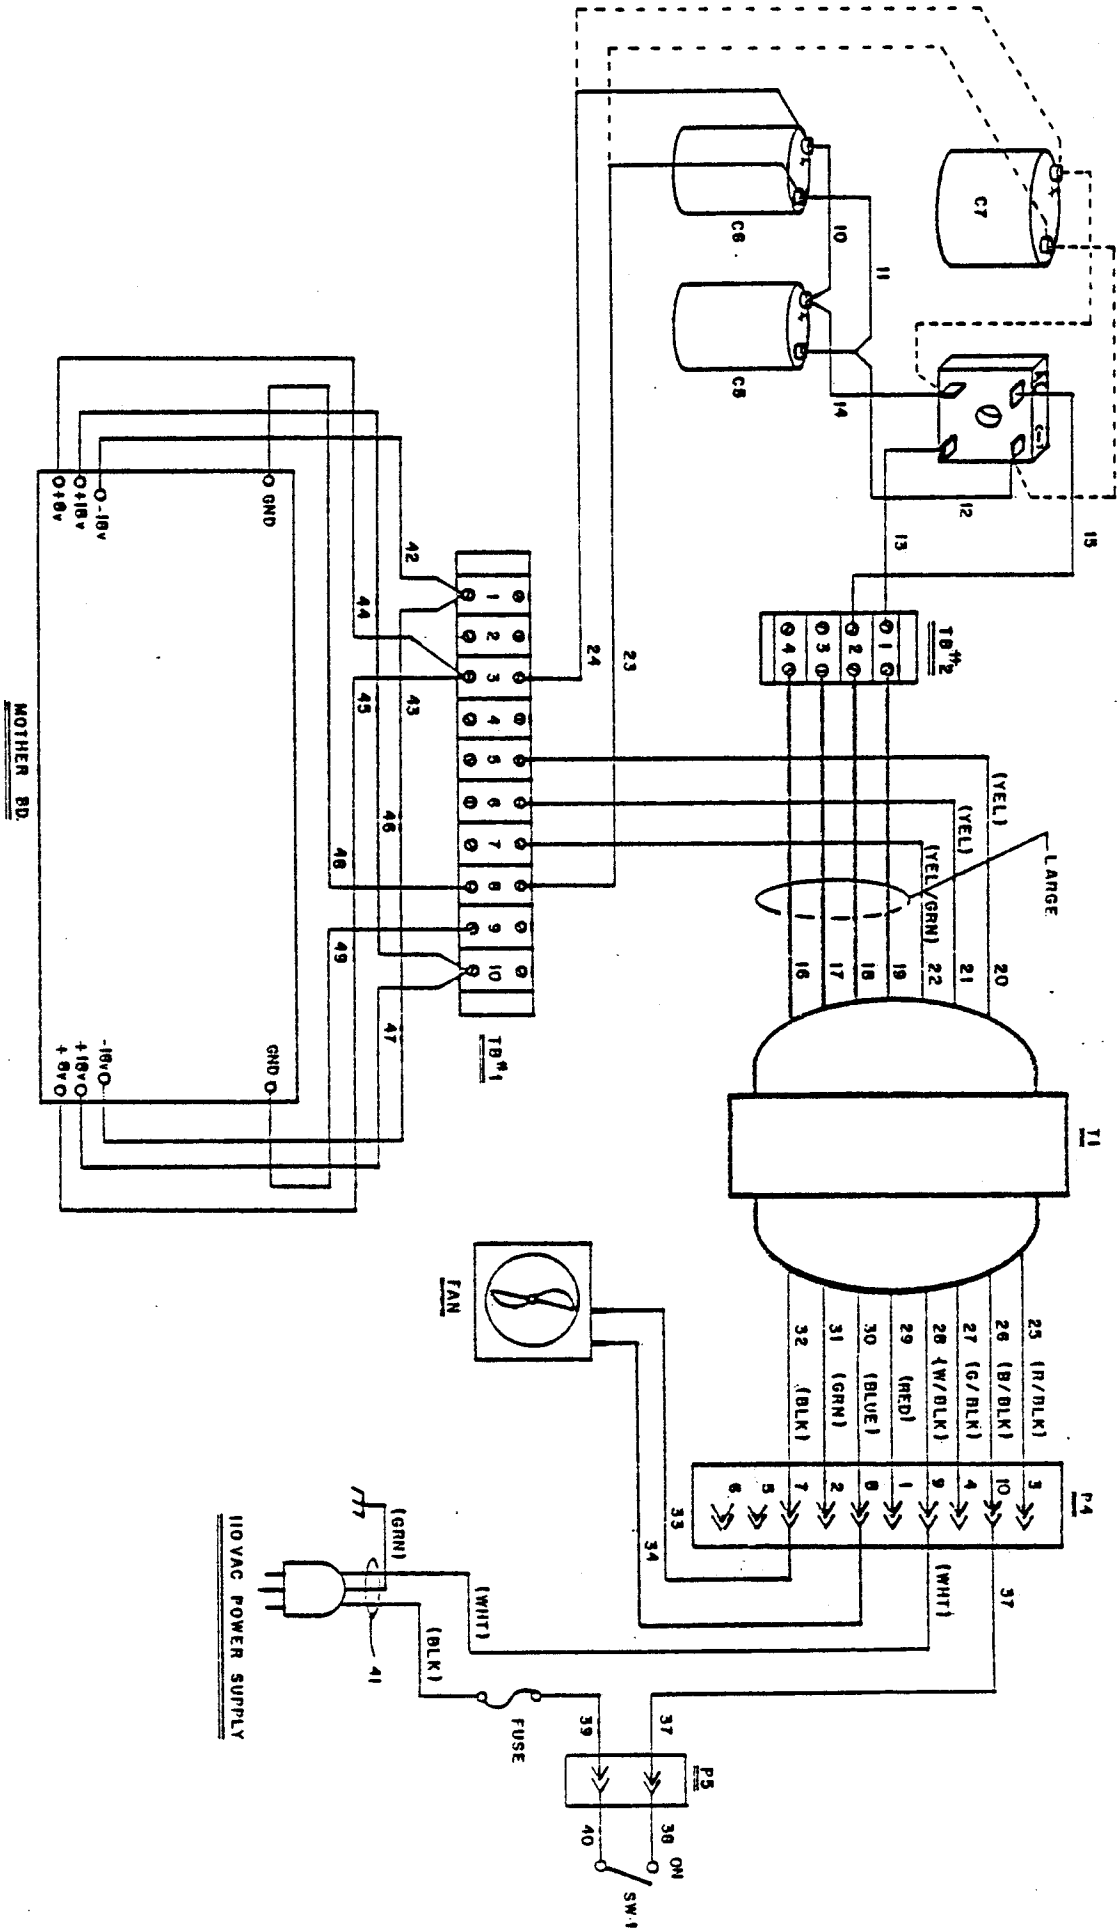
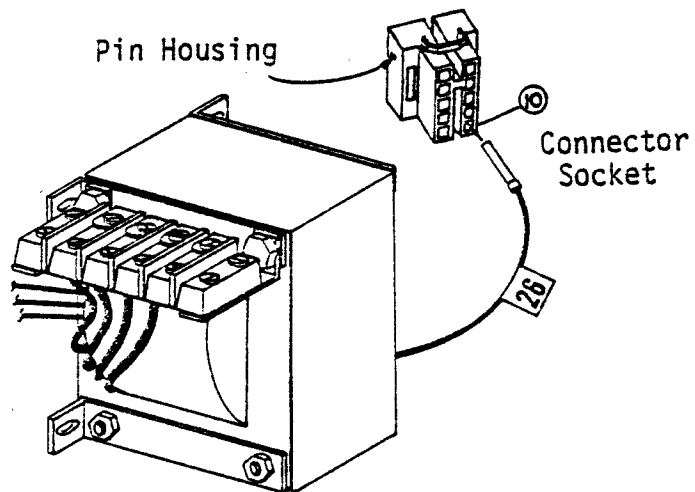

Figure 5-50. Wiring Diagram
Figure 5-58. Pin Housing Insertion
5-59. CAPACITOR WIRING (Figure 5-50)
3. Connect the wire from the "+" side of the capacitor to terminal #3 on the power supply board terminal block (TB1). (See wiring diagram, Figure 5-50.)
4. Connect the wire from the ground (-) side of the capacitor to terminal #8 of the terminal block (TB1). (See wiring diagram, Figure 5-50.)
4. Connect the wire from the "+" side of C5 to terminal #3 on the terminal block (TB1). (See wiring diagram, Figure 5-50.)
5. Connect the wire from the ground side of C5 to terminal #8 of the terminal block (TB1). (See wiring diagram, Figure 5-50.)
2. When all eight wires on the primary side of the transformer have pins attached, insert the pin housing (P4) as shown in Figure 5-58. Insert the pins in the following order (see wiring diagram, Figure 5-50):
2. Attach wires 13 and 15 from the bridge rectifier to terminals 1 and 2 of the terminal block (TB2). (See Wiring Diagram, Figure 5-50.)
2. Make sure the two 19-inch bridge rectifier wires, the 40-inch fuse wire (#39), and the 40-inch connector plug wire (#37) go under the fan as the back panel is mounted. Connect wire 14 from the bridge rectifier to the "+" side of the capacitor(s). Connect wire 12 from the bridge rectifier to the ground side of the capacitor(s). Make continuity checks (see wiring diagram, Figure 5-50).